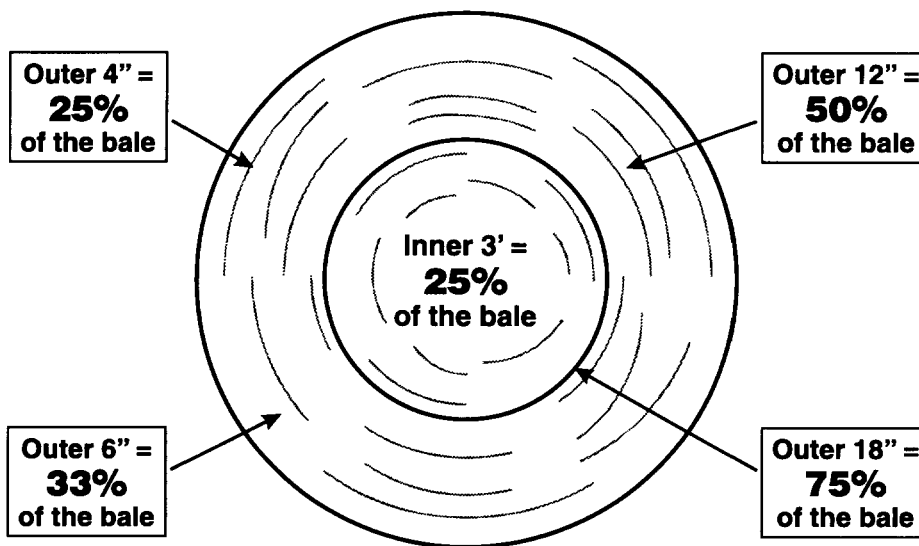

Figure 2. Effect of depth of spoilage on hay waste (%).
- **Indoor storage and bale covers** – If bales are to be marketed or stored for more than one season, indoor storage or bale covers should be considered. Remember that the outer 4 inch thick layer of a 6 foot diameter round bale contains about 25 percent of the total bale volume (See Figure 2). Studies have shown outdoor storage losses range between 5 and 35 percent depending on the amount of precipitation, storage site location, and original condition of the bale. Storage losses are usually reduced by approximately two-thirds with indoor storage and by one-half with good plastic covering outdoors.
- **Bale size** – Everything else being equal, smaller diameter bales have greater amounts of bale volume exposed to the elements per unit of surface area. This results in increased weathering and spoilage as bale size decreases (See Figure 2).